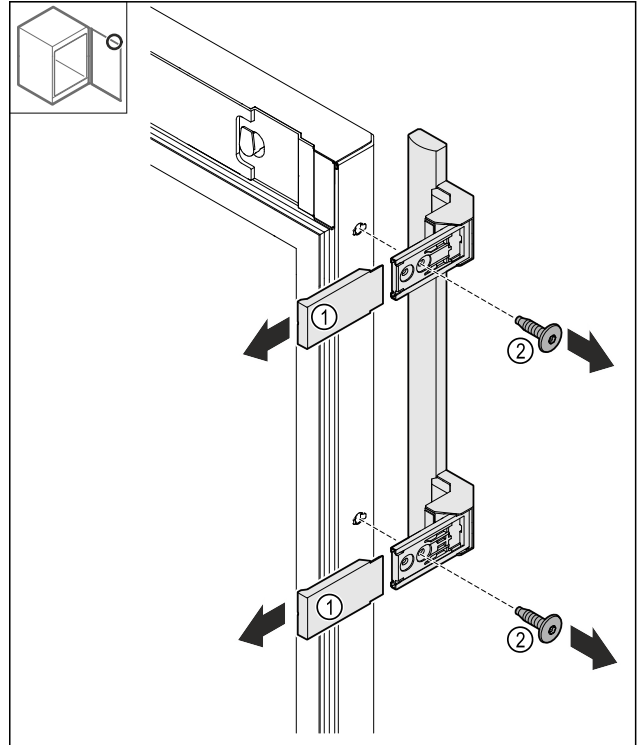

Fig. 20
- Pull off the Fig. 20 (1) covers.
- Loosen the Fig. 20 (2) screws.